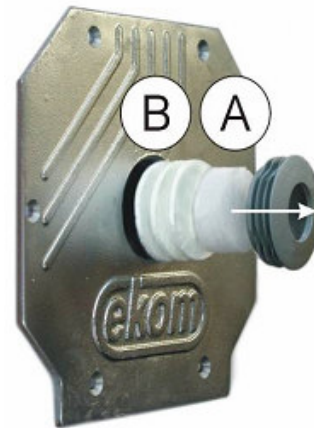

Fig. 2
7.1. Replacement of the filter elements and pre-filter (Fig. 2)